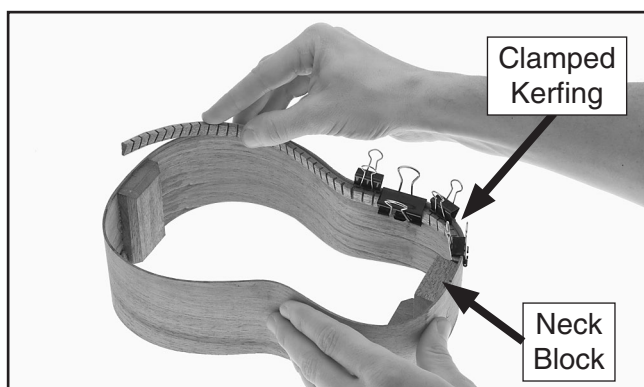

Figure 17. Fitting the kerfing to the sides.
3. Clamp the end of the kerfing tight against the neck block, and gently bend it to the contour of the side, adding clamps as you proceed, as shown in **Figure 17**.